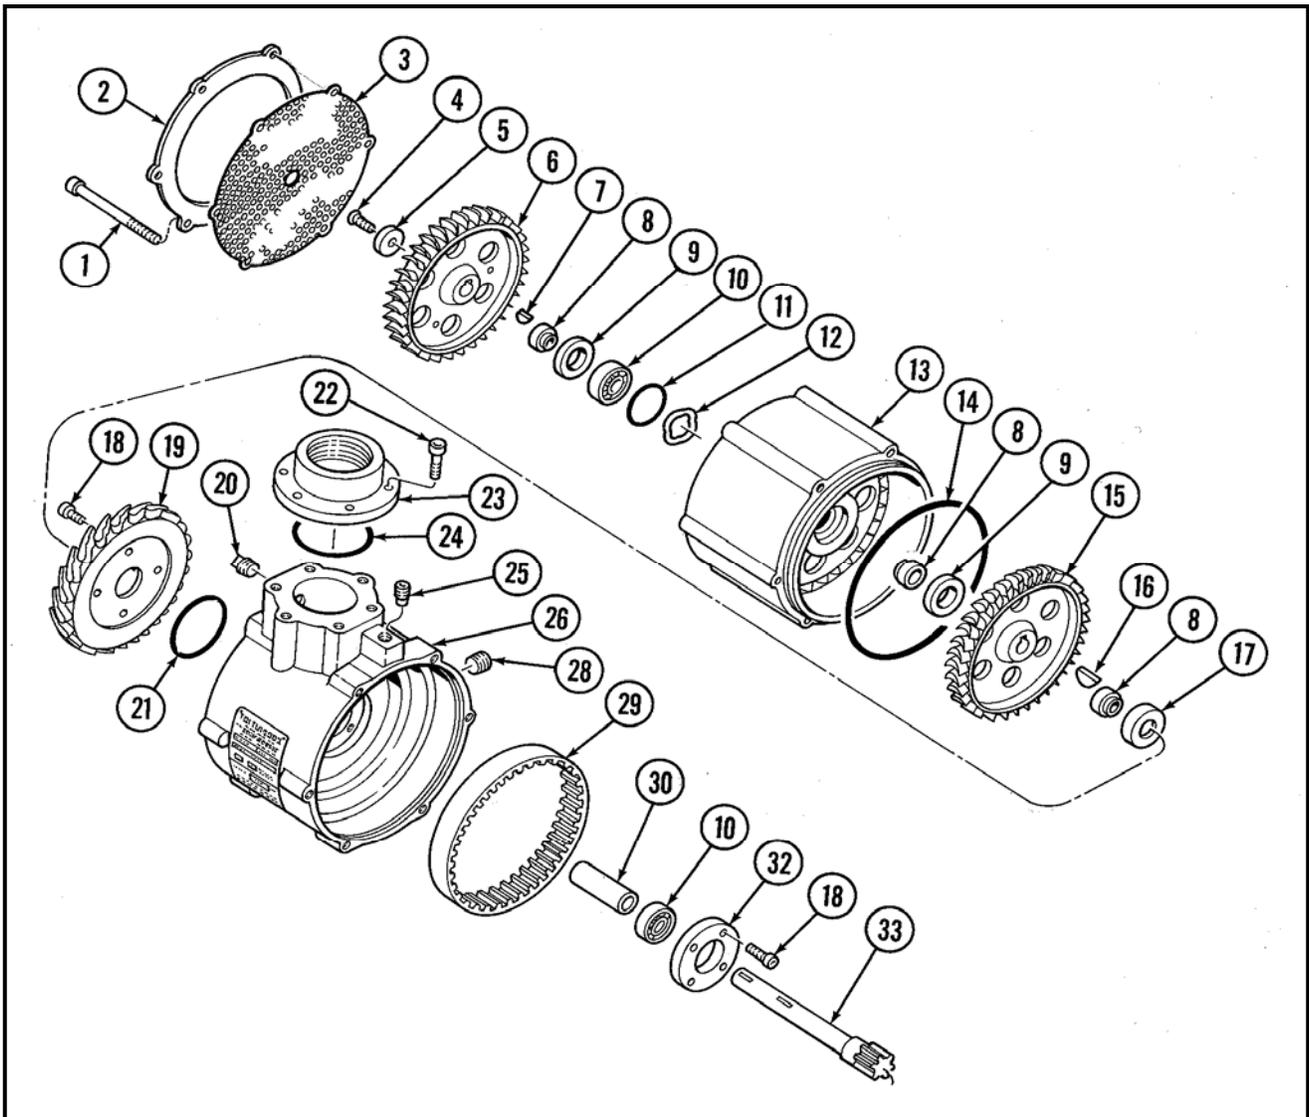

Figure 3. Turbine Housing Assembly
The Turbine housing assembly, refer to figure 3, consists of a stage one (15) and a stage two (6) turbine wheel mounted on sun gear shaft (33). The front bearing (10) is secured by a retainer plate (32). The aft bearing is preloaded by wavy spring (12).